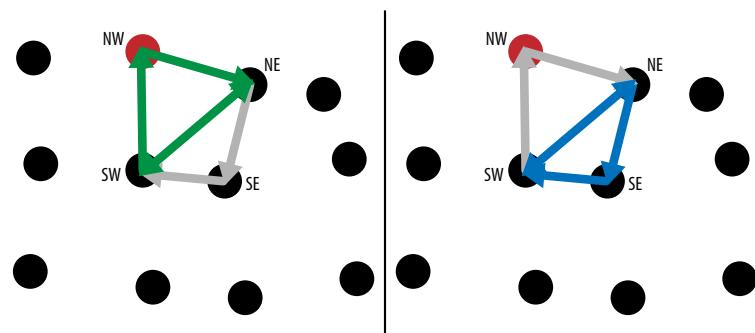

Figure 5-13. The two triangles that connect a depth point with its neighbors.
- ⑩ Once we've calculated these four indices we can access the depth points that will make up the vertices of the triangles we're going to add to our mesh. But now the question presents itself: which vertices should we connect to form each triangle and in what order? We know from our earlier experience working with MeshLab that we want to add vertices clockwise so that we follow the righthand rule as illustrated in Figure 5-5. So, in this case, we'll split the surface defined by our four vertices into two triangles: NW to NE to SW and NE to SE to SW, as shown in Figure 5-13.